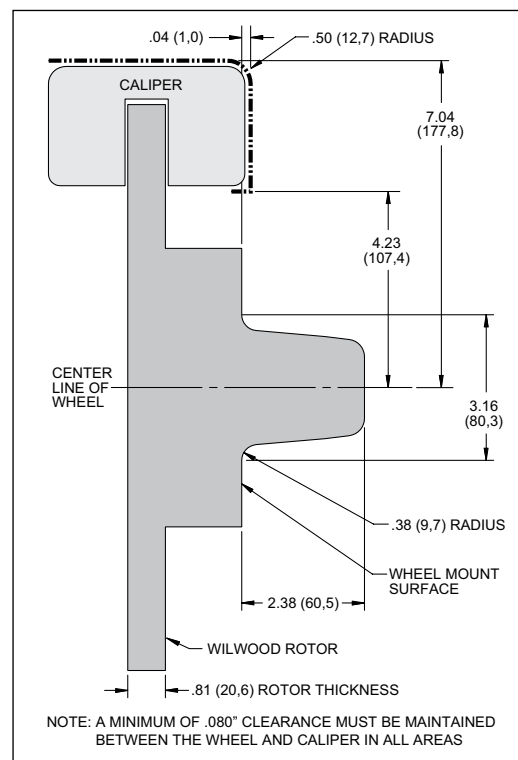

Figure 3. Wheel Clearance Diagram
- Review the Wheel Clearance Diagram (Figure 3, page 4) to verify that there is adequate clearance with the wheels you will be using with the installation.
- Verify wheel clearance using Figure 3.